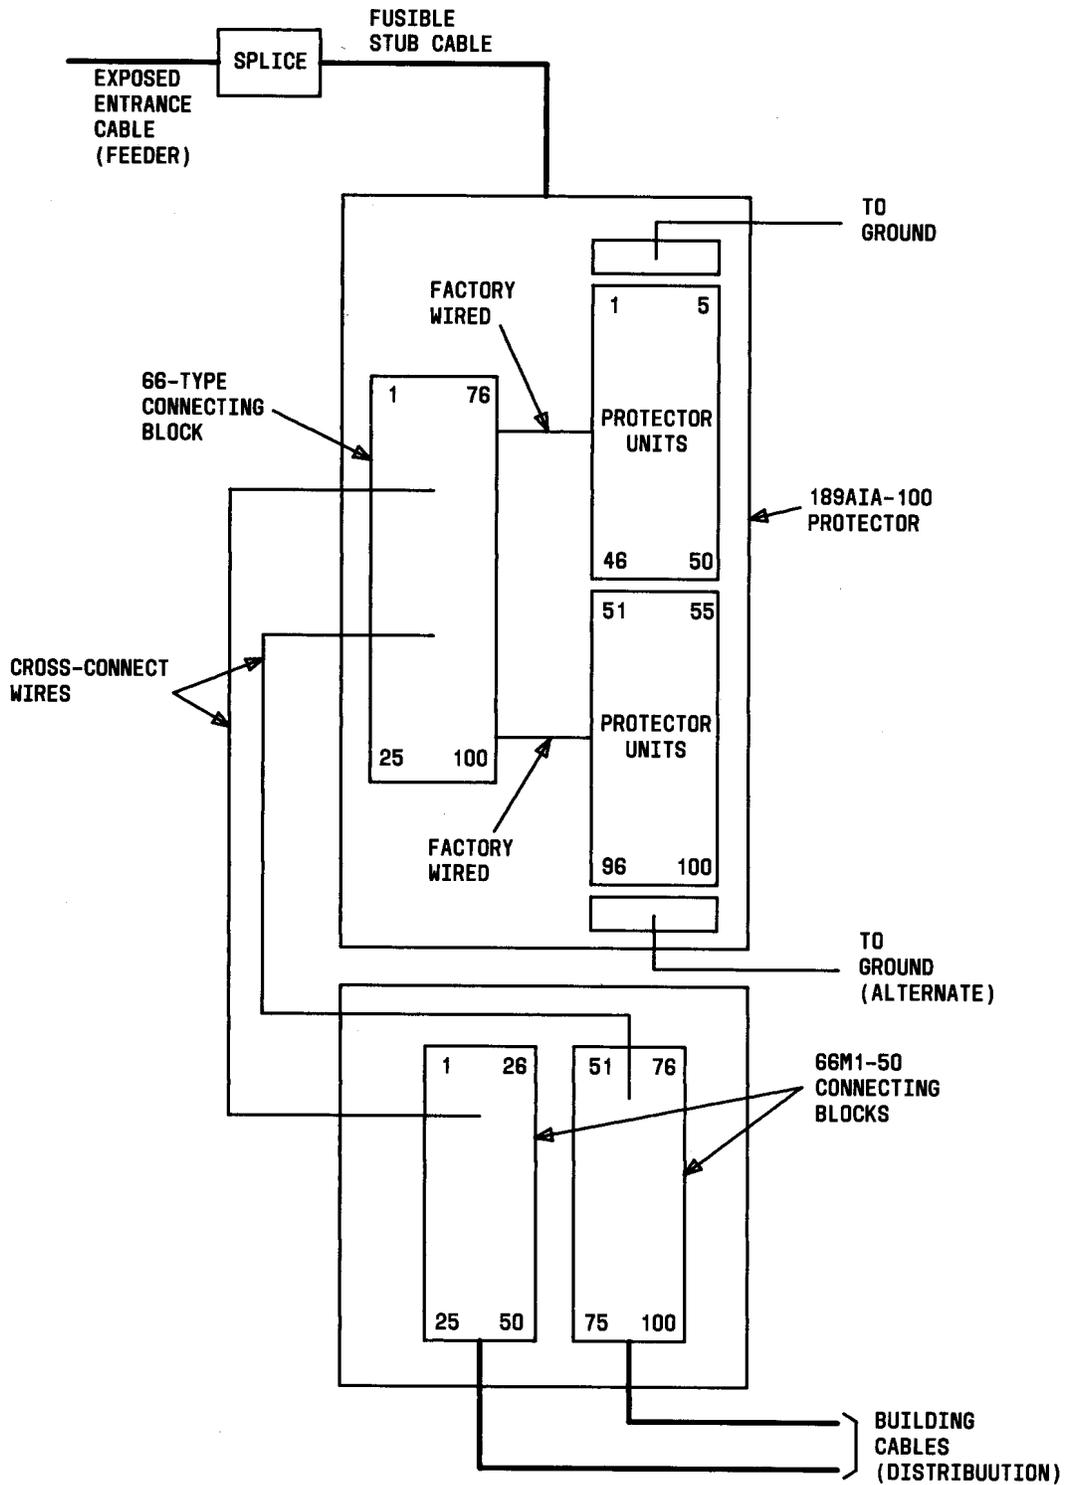

Fig. 2—Wiring Diagram for 189-Type Protector
2.02 The left side portion of the modular protector is similar to the 66-type connecting blocks and is factory wired to the protectors. Figure 2 shows a wiring diagram for the 189-type protector.